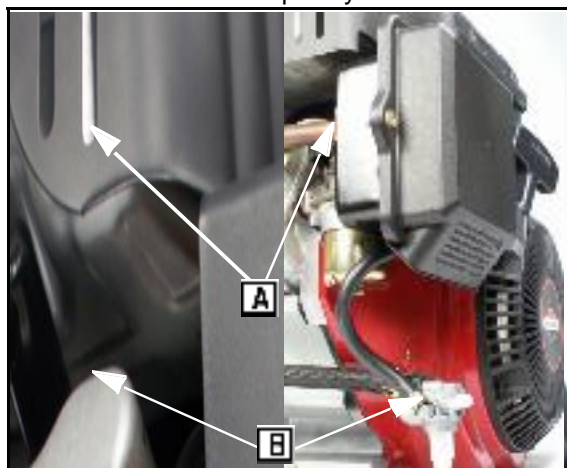

Fig. 1
1. Disconnect breather hose ([A] Fig. 1) at rocker cover and remove air cleaner assembly.
2. Release clamp and disconnect tank hose at fuel shut-off valve ([B] Fig. 1).